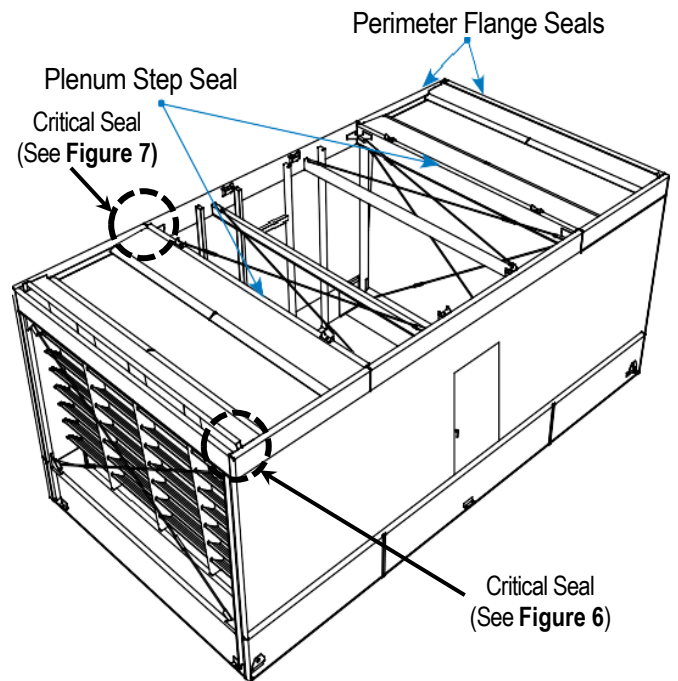

Figure 4. Lower Section Sealing Detail
3. Wipe moisture and dirt from the perimeter flange and plenum step as shown in **Figure 4**.
- a. Refer to critical seal area shown in **Figure 4** and detailed in **Figure 7**.
5. Apply a 2" x 2" piece of flat butyl sealer tape to the corner rigging guides as shown in **Figure 4** and detailed in **Figure 6**.